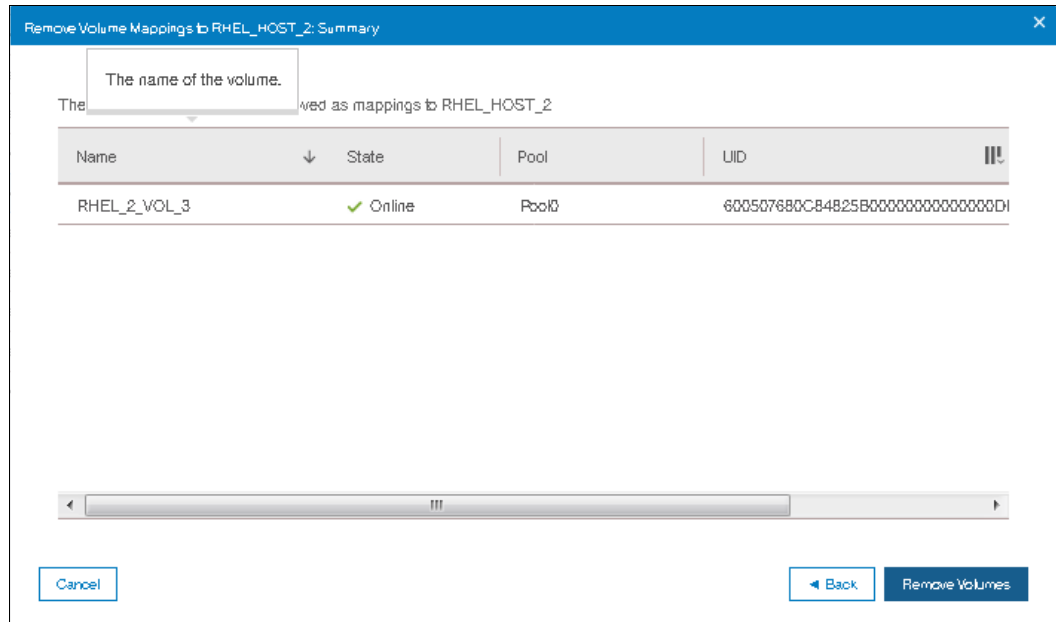

Figure 8-14 Remove volume mapping summary window
5. A window listing the volume that will be unmapped will be as shown in Figure 8-14 on page 357.